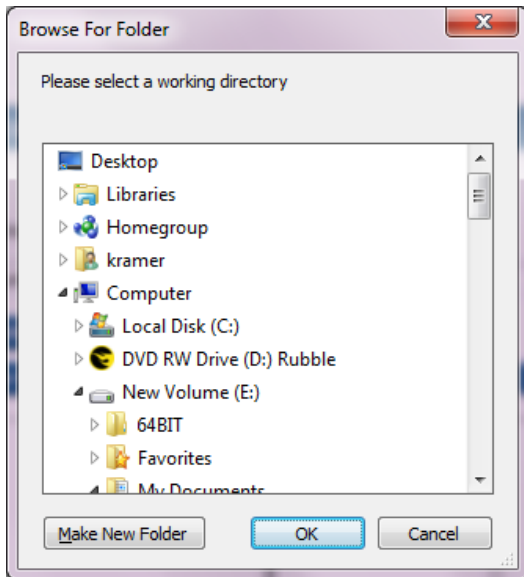

Figure 11: Change the Working Directory Window
5. Select or create a new working directory (see Figure 11).